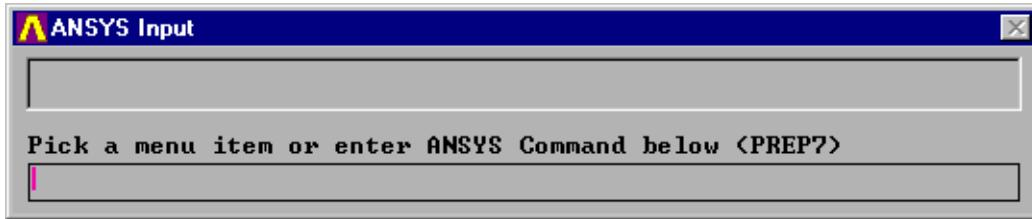

Figure 23: **ANSYS Input** window
- As the unit of the 3D model imported from MEMSCAP 3D Modeler is the micron, enter **mcp_unit=1e-6** in the **ANSYS Input** window (see Figure 23).